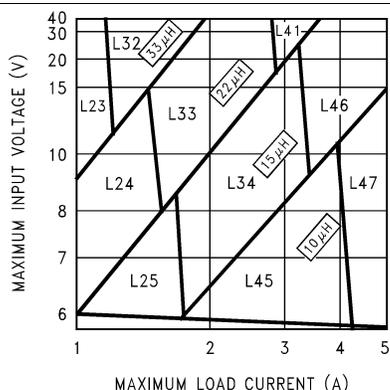

Figure 14. LM2679-3.3 V
Step 3: Determine the inductor required by using one of the four nomographs, Figure 14 through Figure 17. Table 3 provides a specific manufacturer and part number for the inductor.
Step 5: Determine an input capacitor from Table 7 and Table 8 for fixed output voltage applications. Use Table 1 and Table 2 to find the specific capacitor type. For adjustable output circuits select a capacitor from Table 1 and Table 2 with a sufficient working voltage (WV) rating greater than  $V_{IN\ max}$ , and an RMS current rating greater than one-half the maximum load current (2 or more capacitors in parallel may be required).
Step 3: Use the nomograph for the 3.3-V device, Figure 14. The intersection of the 16 V horizontal line ( $V_{IN\text{ max}}$ ) and the 4 A vertical line ( $I_{load\text{ max}}$ ) indicates that L46, a 15- $\mu\text{H}$  inductor, is required.